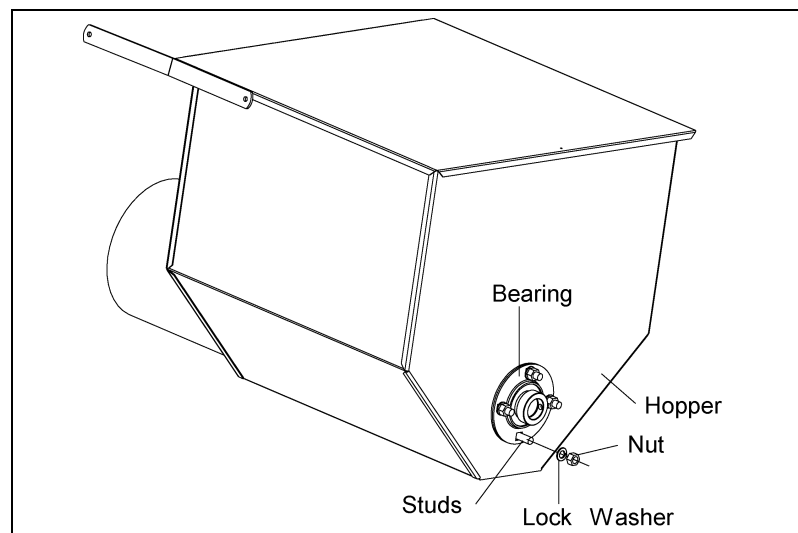

Figure 4B
- B. Next bolt the bearing with flangette to the studs on the hopper using the required lock washer and nut. (See Chart Below) and (See Figure 4B)